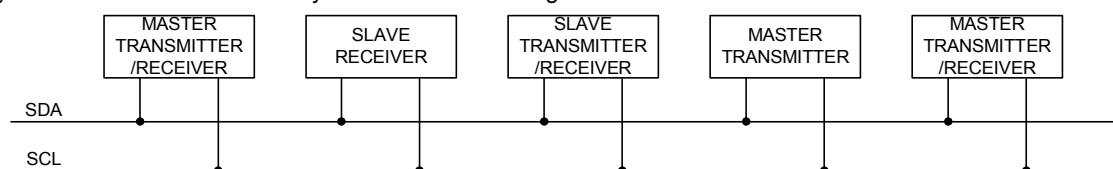
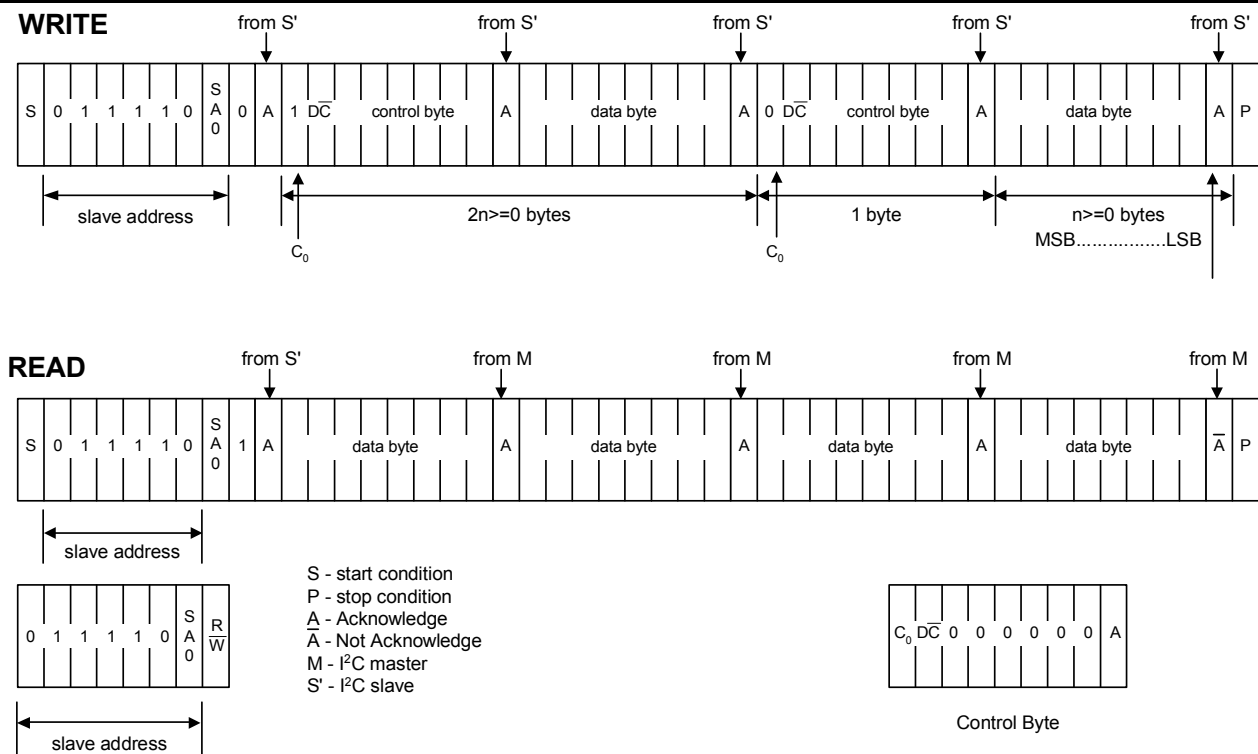

Figure 7 System configuration
Figure 9 I²C Protocol
The SH1107 supports both read and write access. The $R/\bar{W}$ bit is part of the slave address. Before any data is transmitted on the I²C-bus, the device that should respond is addressed first. Two 7-bit slave addresses (0111100 and 0111101) are reserved for the SH1107. The least significant bit of the slave address is set by connecting the input SA0 to either logic 0 (VSS) or 1 (VDD). The I²C-bus protocol is illustrated in Fig.7. The sequence is initiated with a START condition (S) from the I²C-bus master that is followed by the slave address. All slaves with the corresponding address acknowledge in parallel, all the others will ignore the I²C-bus transfer. After acknowledgement, one or more command words follow which define the status of the addressed slaves. A command word consists of a control byte, which defines Co and $D/\bar{C}$ (note1), plus a data byte (see Fig.9). The last control byte is tagged with a cleared most significant bit, the continuation bit Co. After a control byte with a cleared Co-bit, only data bytes will follow. The state of the $D/\bar{C}$ -bit defines whether the data-byte is interpreted as a command or as RAM-data. The control and data bytes are also acknowledged by all addressed slaves on the bus. After the last control byte, depending on the $D/\bar{C}$ bit setting, either a series of display data bytes or command data bytes may follow. If the $D/\bar{C}$ bit was set to '1', these display bytes are stored in the display RAM at the address specified by the data pointer. The data pointer is automatically updated and the data is directed to the intended SH1107 device. If the $D/\bar{C}$ bit of the last control byte was set to '0', these command bytes will be decoded and the setting of the device will be changed according to the received commands. The acknowledgement after each byte is made only by the addressed slave. At the end of the transmission the I²C-bus master issues a stop condition (P). If the $R/\bar{W}$ bit is set to one in the slave-address, the chip will output data immediately after the slave-address according to the $D/\bar{C}$ bit, which was sent during the last write access. If no acknowledge is generated by the master after a byte, the driver stops transferring data to the master.